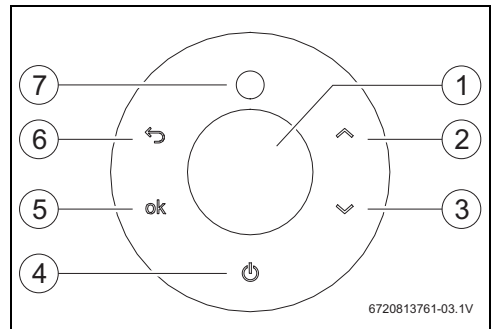

Fig. 39 Touch control display
- ▶ Touch and hold symbol for more than 3 sec. The LCD display shows the selected temperature. When the burner is on, the display shows symbol (Fig. 39, [7]).